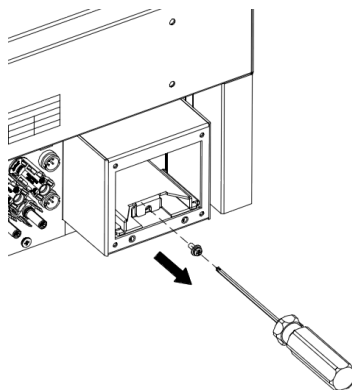

Figure 4.18 Remove fixing screws of the rail
(3) Remove the fixing screws of AC terminal rail, as shown in Figure 4.18.